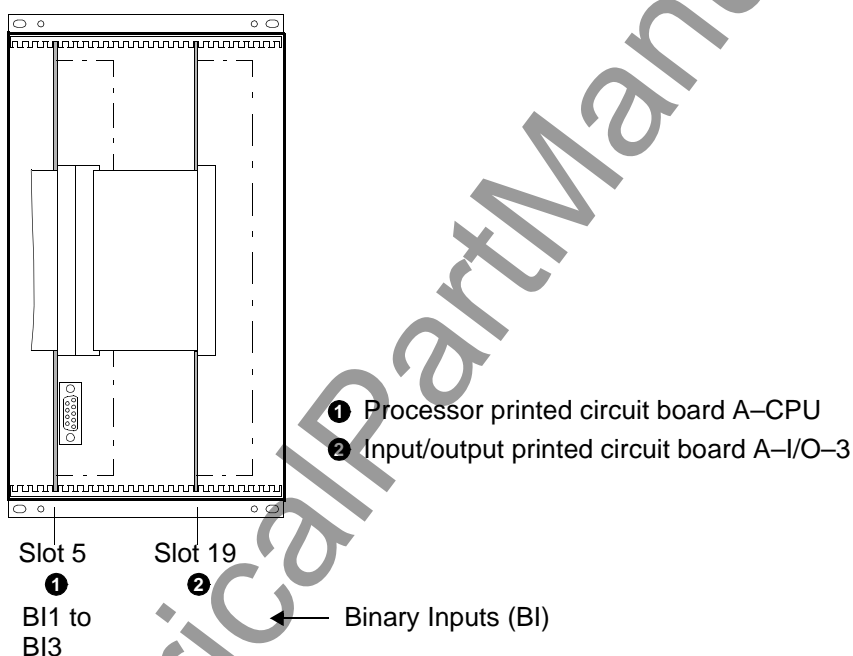

Figure 3-5 Front view of the device after removal of the front cover (simplified and scaled down)
- ☐ Carefully pull off the front cover. The front cover is connected to the CPU board with a short ribbon-cable. Refer to Figure 3-5 for the physical arrangement of the printed boards.
The order of the boards is shown in Figure 3-5.